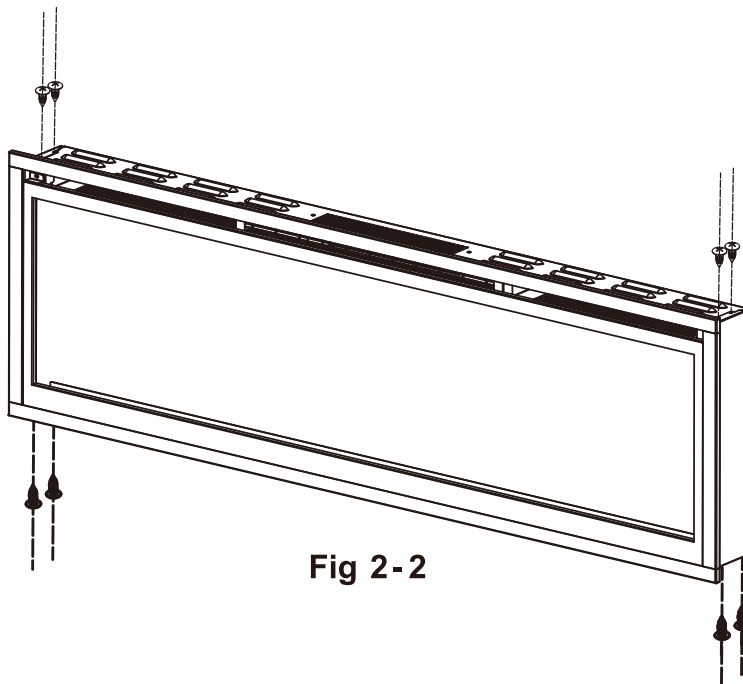

Fig 2-2
Step 2. Use the screws (supplied) to fix the side cover panel. **Fig 2-2**